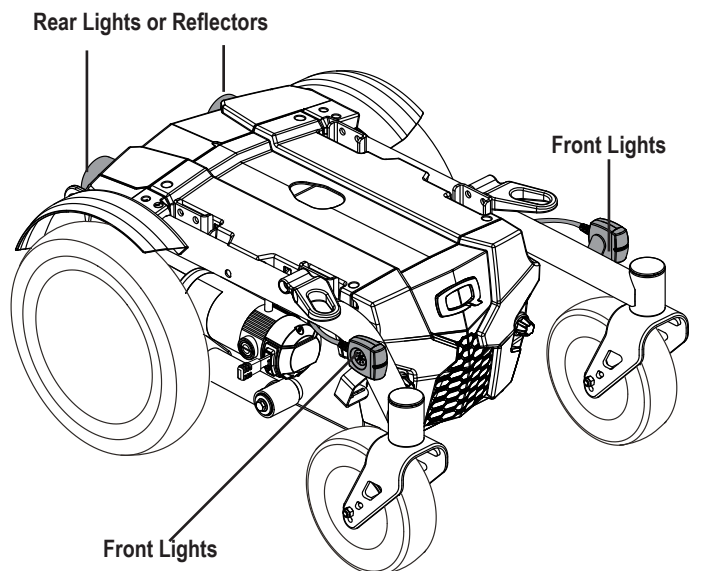

Figure 4. Single Switch to Operate Fender Lights
2. Pull up both manual freewheel levers for drive mode (drive motor engaged). See figure 4.
Your power chair may be equipped with lights mounted on your power base. The two rear lights are located on the rear cover and are attached to the rear battery door. The rear lights include turn signals, hazard lights, and taillights. If your power chair is not equipped with lights, reflectors will be located on the rear cover. The front lights are mounted on the frame of the power base. The front lights include turn signals, hazard lights, and headlights. The lights are operated through the controller. See figure 4.